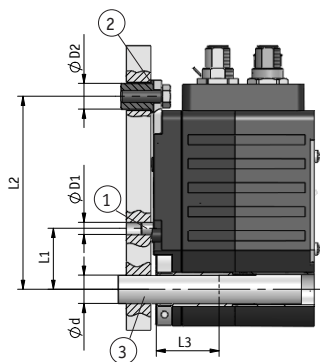
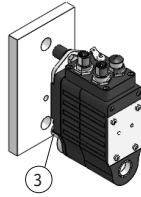
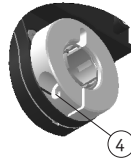
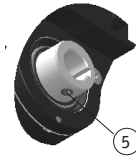

Fig. 1: Mounting dimensions
Fig. 2: Mounting
Fig. 3: Shaft with clamp collar
Fig. 4: Shaft with feather key groove
- ▶ Ensure a low shaft and angle offset between shaft and accommodation bore by applying appropriate manufacturing methods (see Fig. 1 + Tab. 1).
### Preparing mounting (Fig. 1, Fig. 2, Fig. 3, Fig. 4):
### Mounting (Fig. 1, Fig. 2, Fig. 3, Fig. 4):